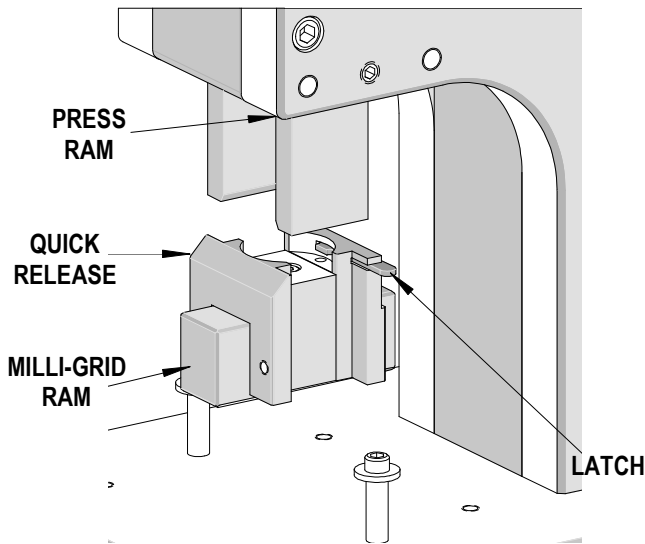

Figure 2-1
2. Slide the quick release into the bottom of the press ram, until it comes to a stop. See Figure 2-1.